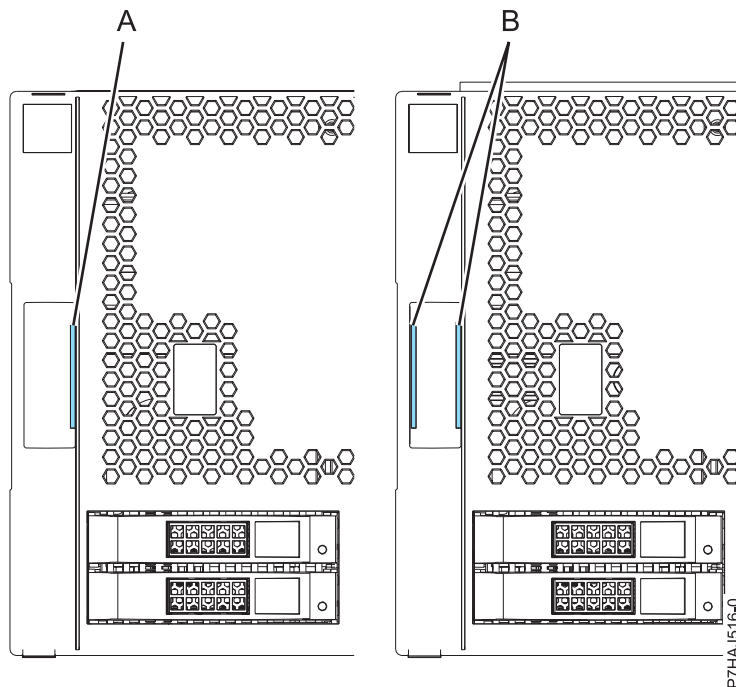

Figure 13. Identifying the older and newer covers
Note: The older covers that were shipped before 1 March 2011 can be identified by a single blue stripe (A) on the cover assembly latches. Newer covers that were shipped after 1 March 2011 have two blue stripes (B) on the cover assembly latches. See Figure 13.